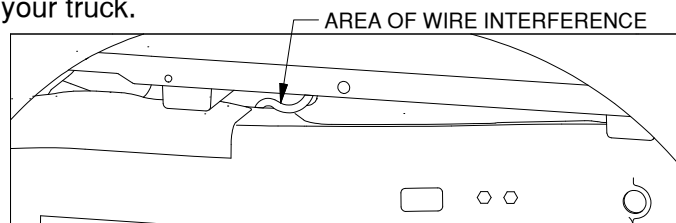

Figure D2: View looking into the driver side wheel well.
- 2. Move wiring for handle install.** The handle may come into contact with part of the wiring harness running over the driver side of the frame, see Figure D2. Move the wire from this area of the frame by pulling the wiring down beside the frame in the inside of the truck. In some cases, fasteners may be present that will need to be pulled out of the frame. A wire tie may need to be used to keep the wire down out of the way of the handle. When correctly installed, no moving part of the handle should rub on any wires in your truck.